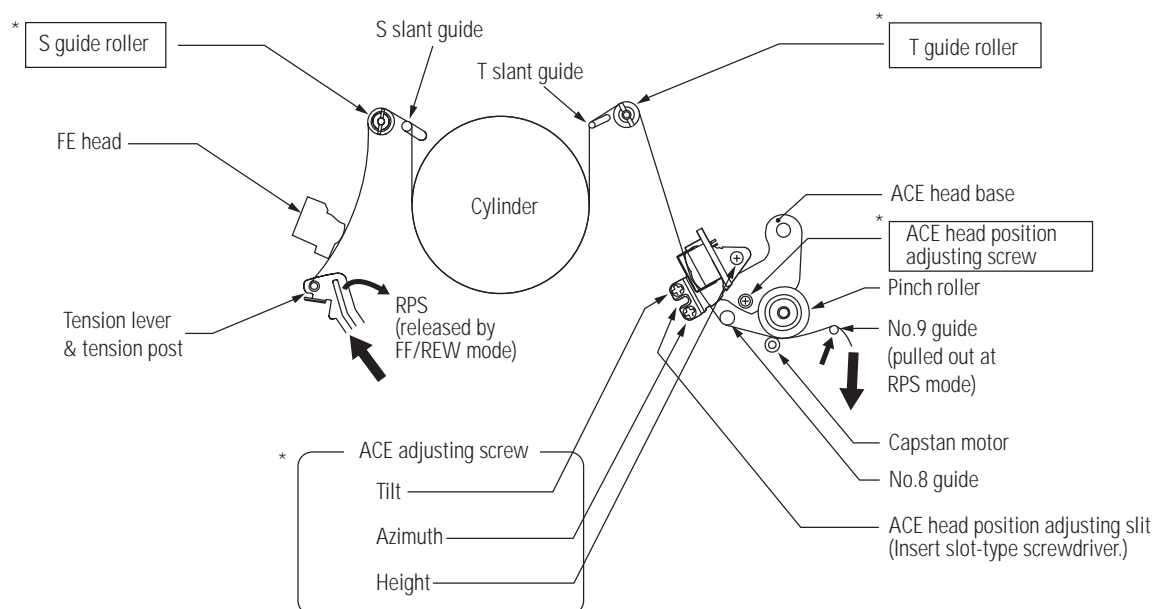

Fig. 14-2 Tape Path System
The tape come out from the supply reel (S) of the video cassette runs through paths shown in Figs. 14-2 and 14-3, and is taken up by the take-up (T) reel. (S stands for the supply reel, and T for the take-up reel, hereafter.)